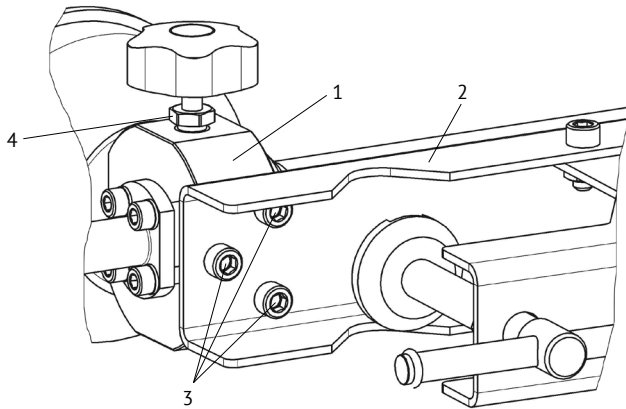

Fig. 2. Bottom view
6.2 Connect clamp 2 (Fig. 2) to the housing 1 with three screws 3.
7.13 For compact carrying of press, unscrew handwheel handles 6. Disconnect clamp 2 (Fig. 2) from press housing 1 by unscrewing screws 3.